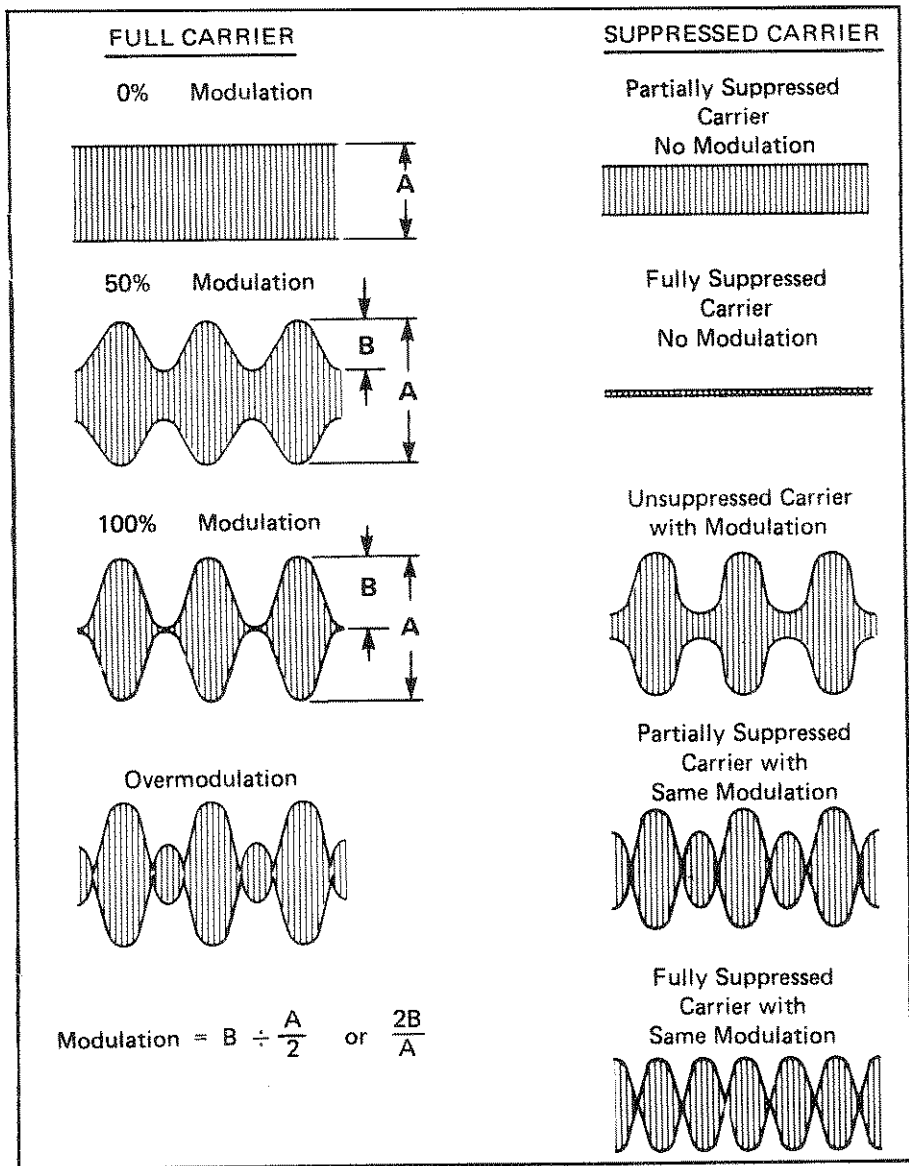

Fig. 9. AM modulation and suppressed carrier waveforms.
4. Adjust percentage of modulation with the MOD LEVEL control. Fig. 9 shows how to measure percentage of modulation with an oscilloscope.
5. Set the CARRIER LEVEL control fully cw for AM operation. Turning the CARRIER LEVEL control clockwise reduces the carrier level, but not the double sidebands. Full suppression of the carrier produces a double sideband (DSB) signal. Fig. 9 illustrates the suppressed carrier waveforms.
5. As the CARRIER LEVEL control is rotated from fully clockwise to fully counterclockwise, carrier level reduces from maximum to minimum, then increases with opposite polarity. Minimum carrier level is obtained at the null near the center of the CARRIER LEVEL adjustment range. This is easily seen with no modulation applied as shown in Fig. 9.
6. With a given modulating signal applied, the percentage of modulation increases as the carrier level is reduced. Significant reduction in the carrier level will produce over-modulation. Minimum carrier level is obtained when the overmodulation envelopes are of equal amplitude as shown in Fig. 9.